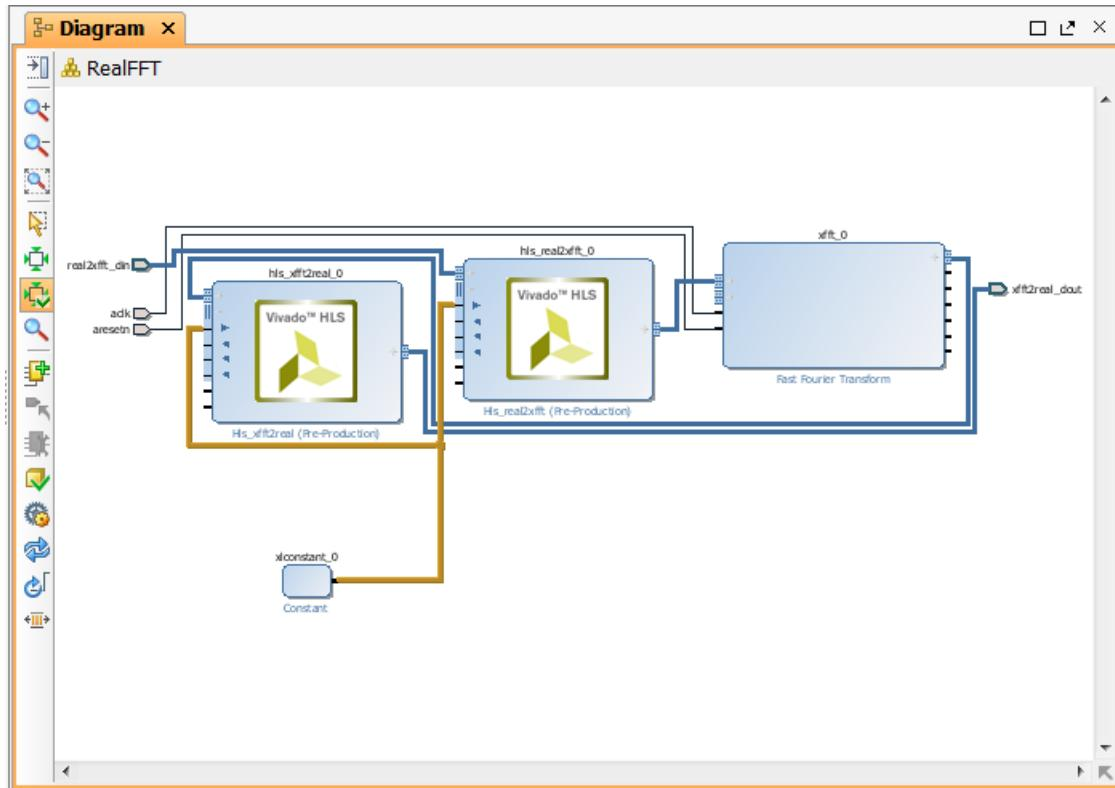

Figure 9-24: Connect AP_START to Constant
g. Connect `ap_start` in both HLS blocks to the Constant block (Figure 9-24).